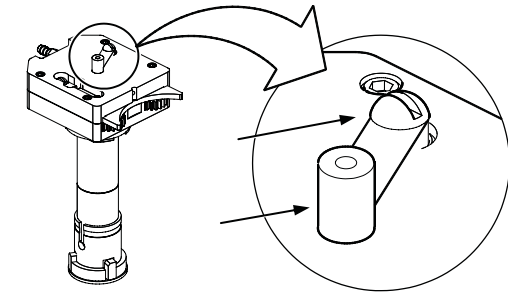

Figure 31 Inspecting the Work Plate and Screws
12. Verify that the work plate screw is tight and free from excessive oxidation. See Figure 31. Clean the work plate with a fine-grit abrasive pad if necessary.